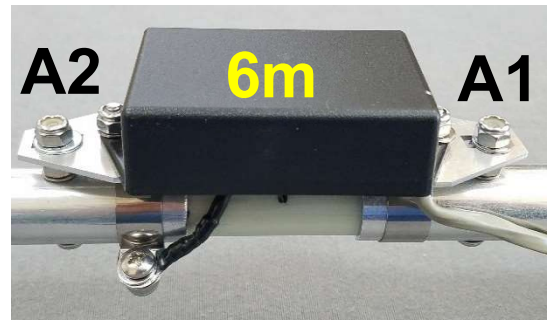

FIGURE 84
□ **STEP 7.35** Repeat **STEPS 7.33 and 7.34** for the ring connector on the opposite side of 6m module at A2 side, as shown in **FIG. 84**.